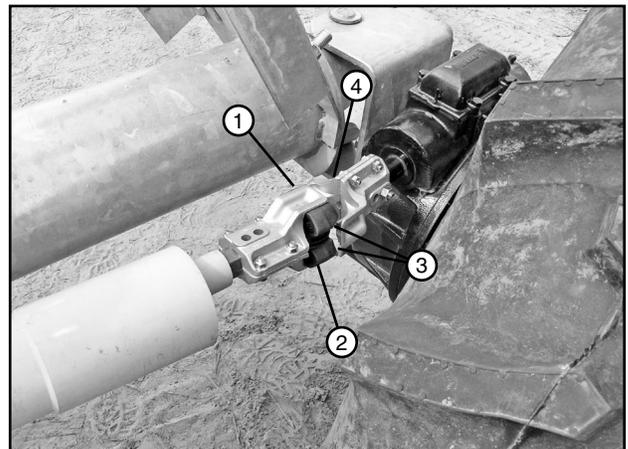

Figure 31-2 1. Drive Shaft U-Joint Half
5. Push the tire toward the operating position while aligning the drive shaft u-joint half and flex joint chamfered corners with the wheel gearbox u-joint half. See figure 31-2.
Continue pushing the tire toward the operating position with enough force to push the gearbox u-joint half over the flex joint and latch the steering arm in the latch plate. See figure 31-2.